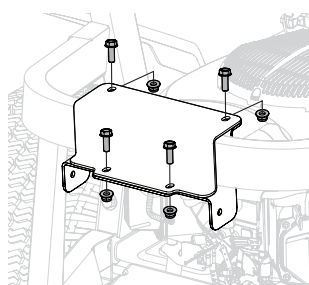

Figure 6
3. Holding both brackets in place, loosely secure assembly around frame tube with four hex head screws (710-1238) and four lock nuts (712-04063). See Figure 6.